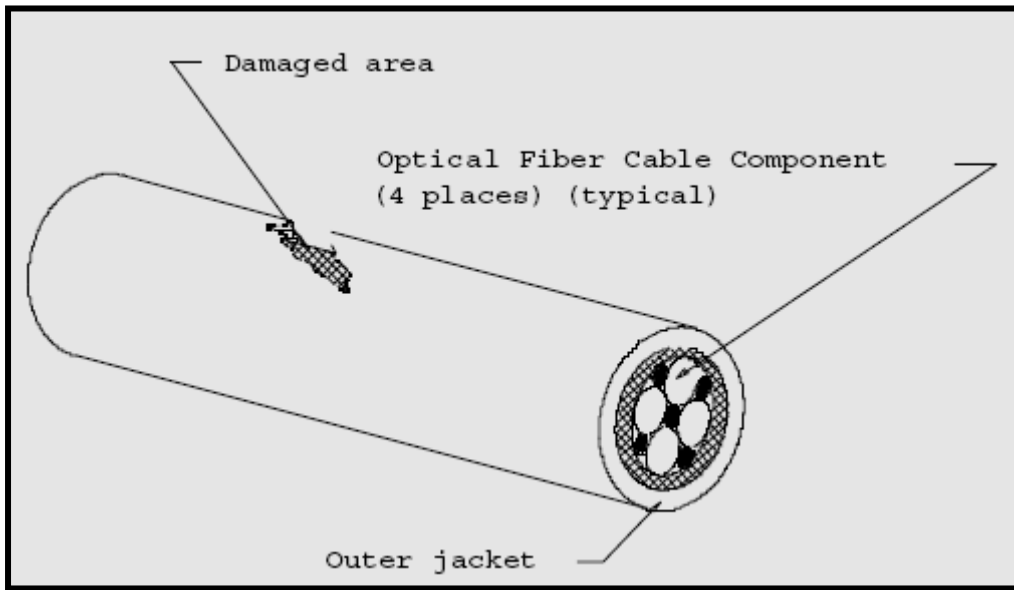

Figure 2-93. Damaged Cable
**Step 2** - Trim off any frayed, burned, or protruding jacket material with a knife using care not to damage the kevlar or the OFCC jacket (see figure 2-93). Square up the jacketing where required.